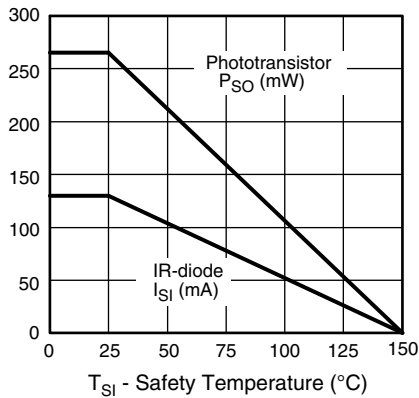

Fig. 2 - Derating Diagram
- According to DIN EN 60747-5-5 (VDE 0884), § 7.4.3.8.2 (see Fig. 2). This optocoupler is suitable for safe electrical isolation only within the safety ratings. Compliance with the safety ratings shall be ensured by means of suitable protective circuits